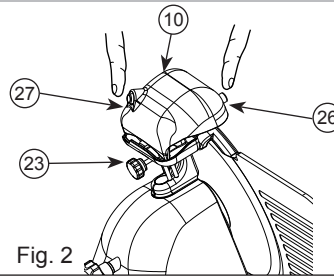

Fig. 2
- Check that the movable bulkhead (2) is closed (graduated knob (6) in position "0").
- Loosen the locking knob (23) of the sharpener group (10).
- Raise the sharpener group (10), turning it by 180° (see Fig.1) so that both wheels are in working position. (see Fig.2).
- Lower the sharpener group (10) until it locks.
- Secure the group by turning the locking knob (23).
- Press button (27) and let the blade turn for about 1 minute.
- After having verified the presence of burr, switch on and gently press button (26) for about 3 seconds to remove the burr produced during sharpening.
- Put the graduated knob (6) back to "0" position.